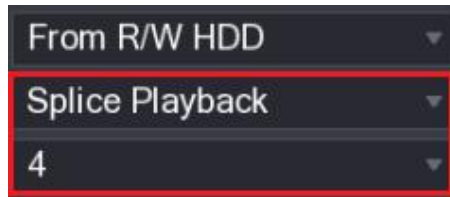

Figure 5-106
Step 2 In the **Search Type** list, select **Splice Playback**; In the Split Mode list, select **4, 9, or 16**. See Figure 5-106.